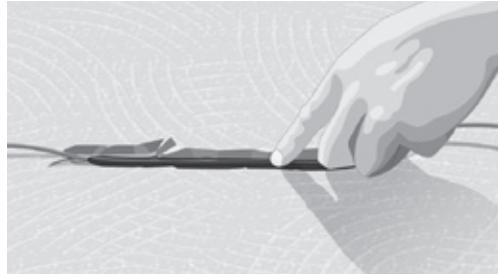

Fig. 2. Groove for joint of cold and heating cable
4. Mill grooves for cold/heating cable joint and end joint. The cable should be kept straight for min. 20 cm each side of a joint. Ensure to make room for the embedment material to fully encapsulate the joints by at least 10 mm either side of the joint. Groove depths made in accordance with the total construction height (Fig. 2).